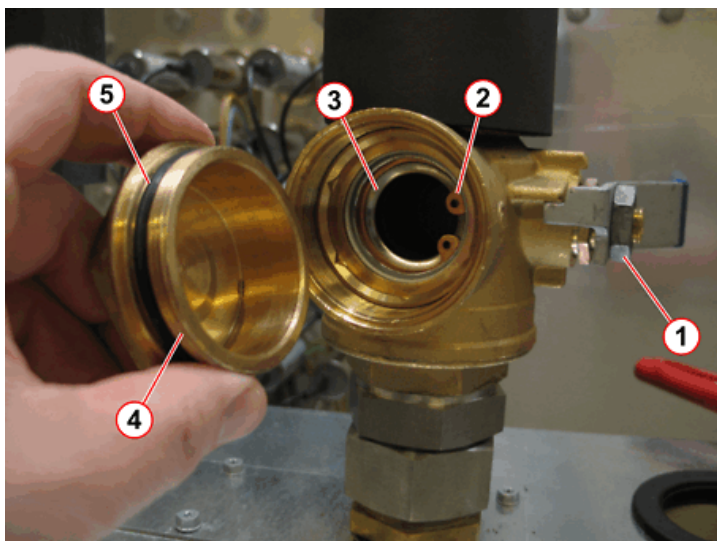

Fig. 35: SEP - valve with strainer
- Slowly close the valve  1/ Fig. 35.
Remove the screw cap 4/Fig. 35 slowly by using a open-end wrench.
Remove the circlip 2/Fig. 35 by using needle nose pliers.
Remove the strainer 3/Fig. 35.
- Check the O-ring  5/ Fig. 35 of the screw cap.